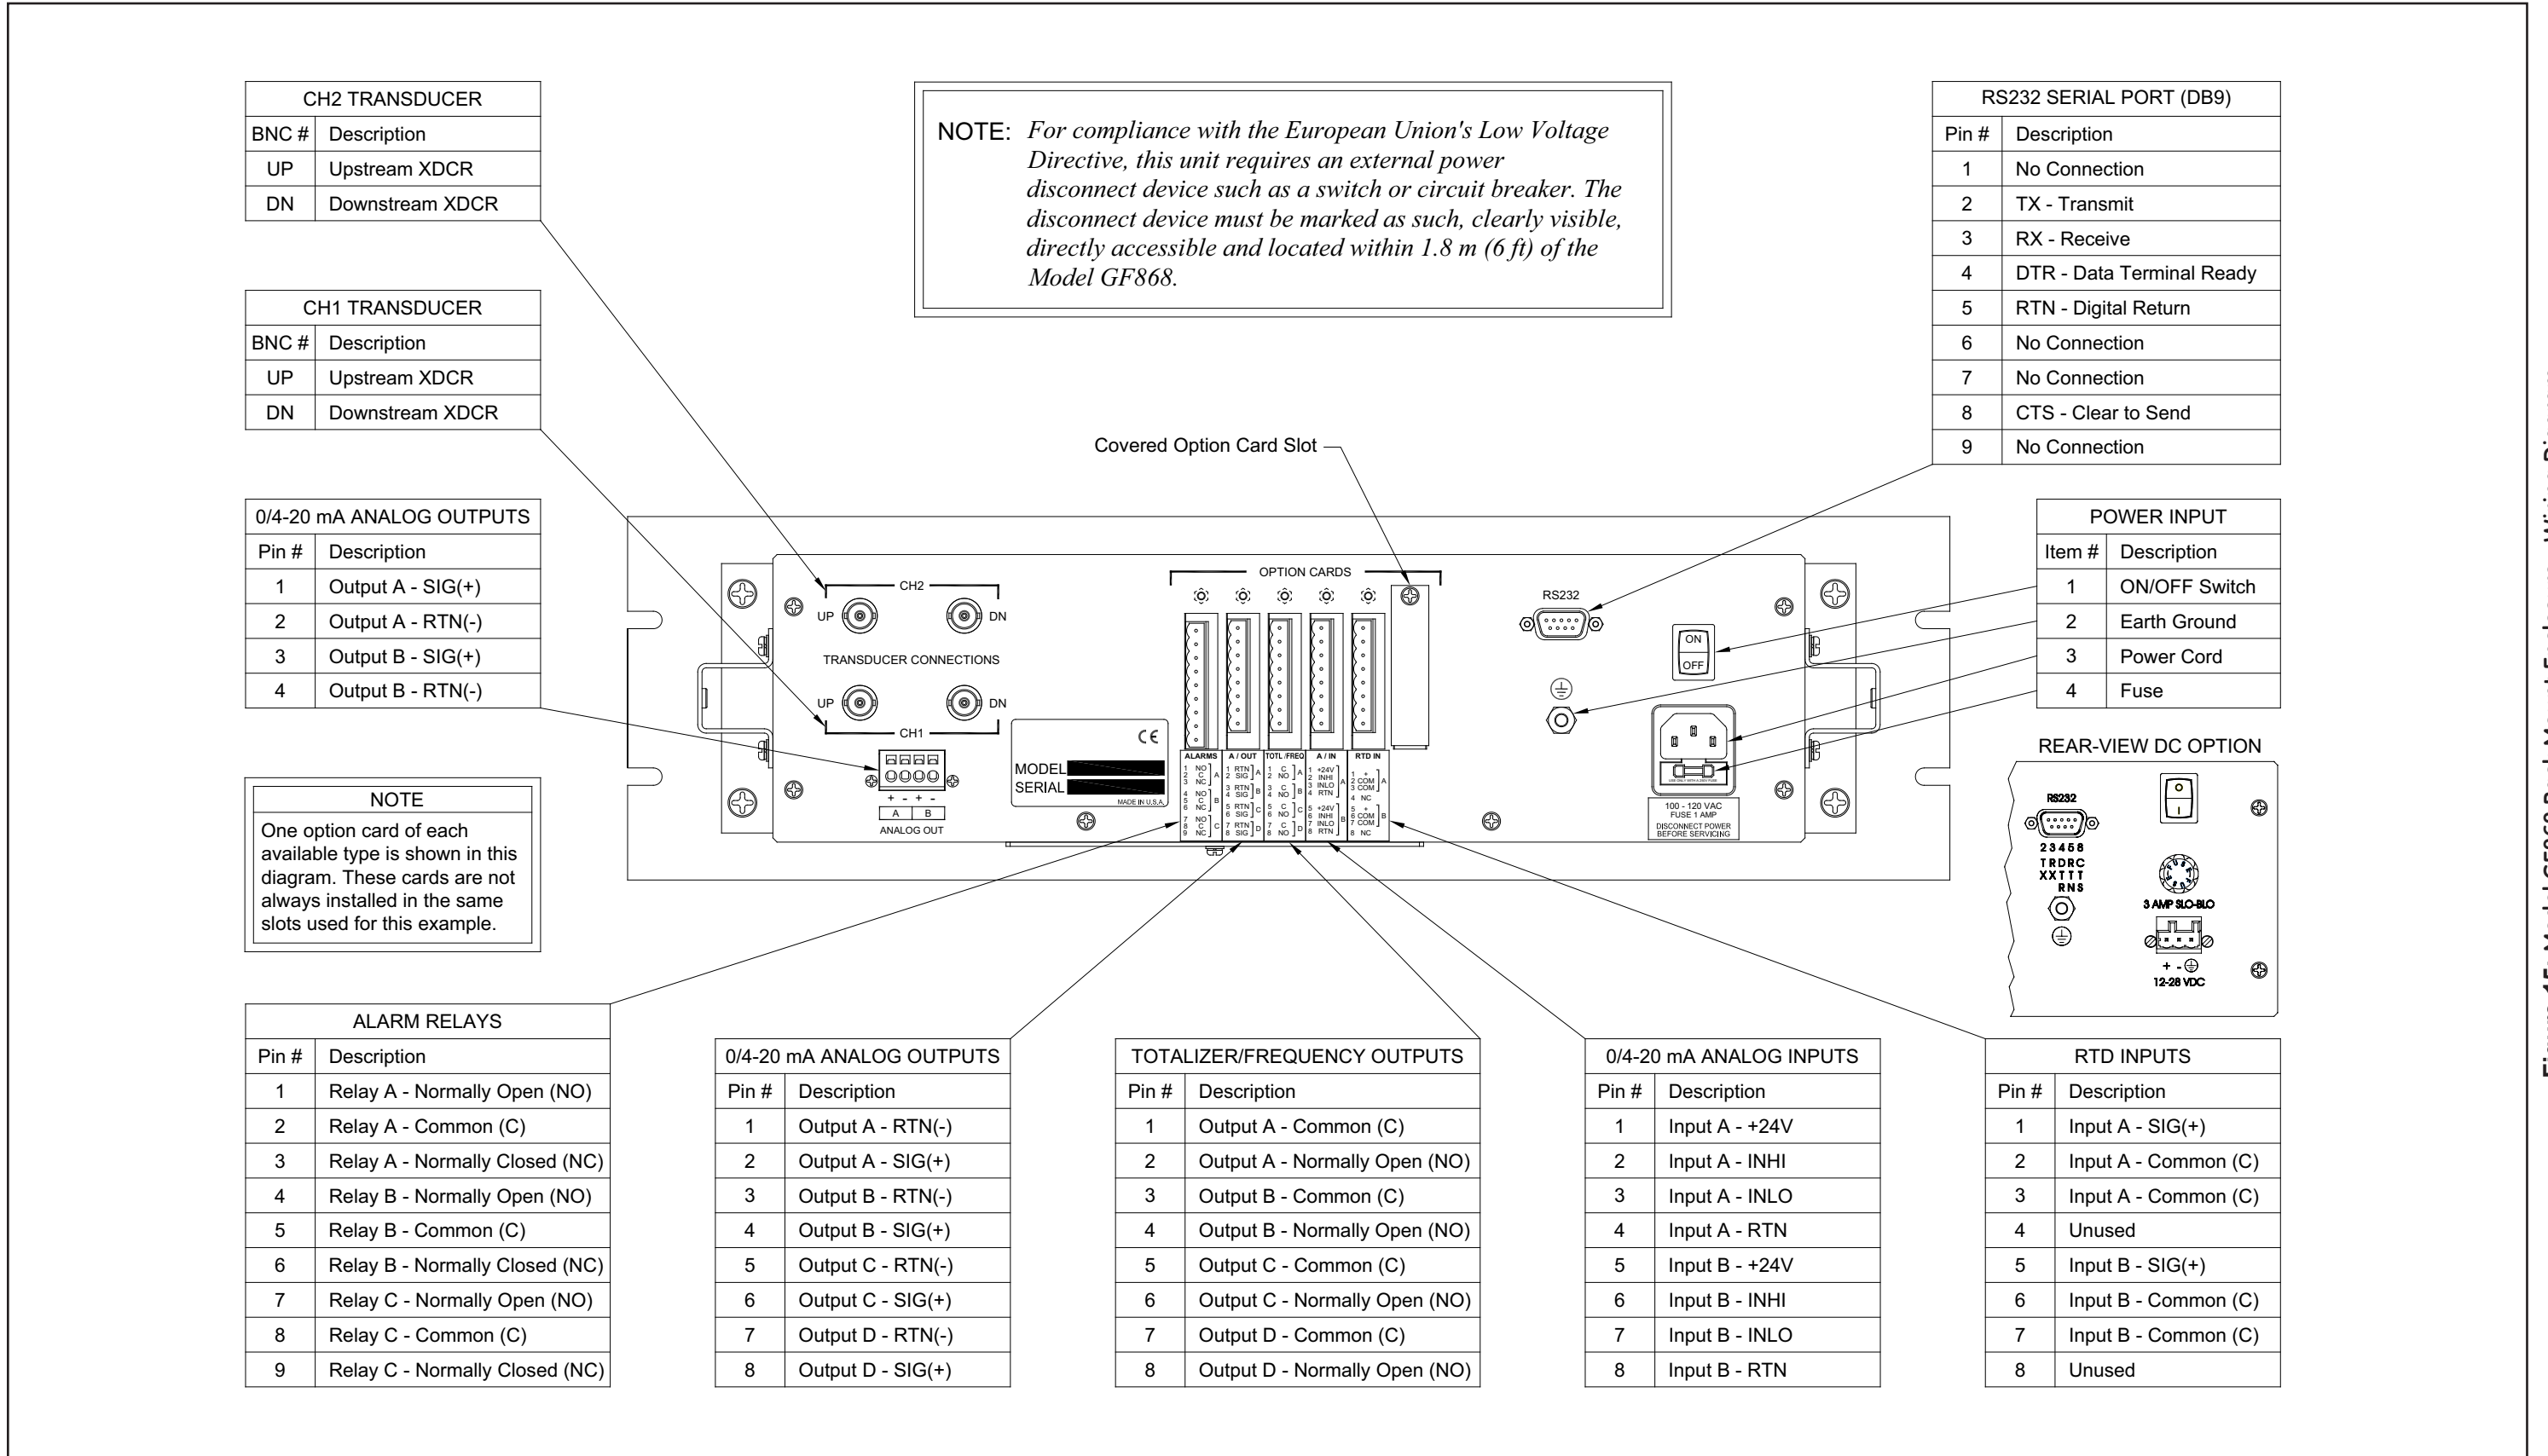

Figure 15: Model GF868 Rack Mount Enclosure - Wiring Diagram
The rack mount Model GF868 requires exactly the same electrical connections as the standard version. However, the locations and type of connectors used for the various components are different. Refer to Figure 15 on page 56 and complete the following steps:
- a. Purchase or prepare a suitable serial cable. This cable should have a standard female DB9 connector, wired as shown in Figure 15 on page 56, for connection to the rear panel of the Model GF868. The other end should be as required for the external device.
5. Wire any installed *option cards* using the same procedures described in Chapter 1, *Installation*, of this manual and the pin # assignments shown in Figure 15 on page 56.